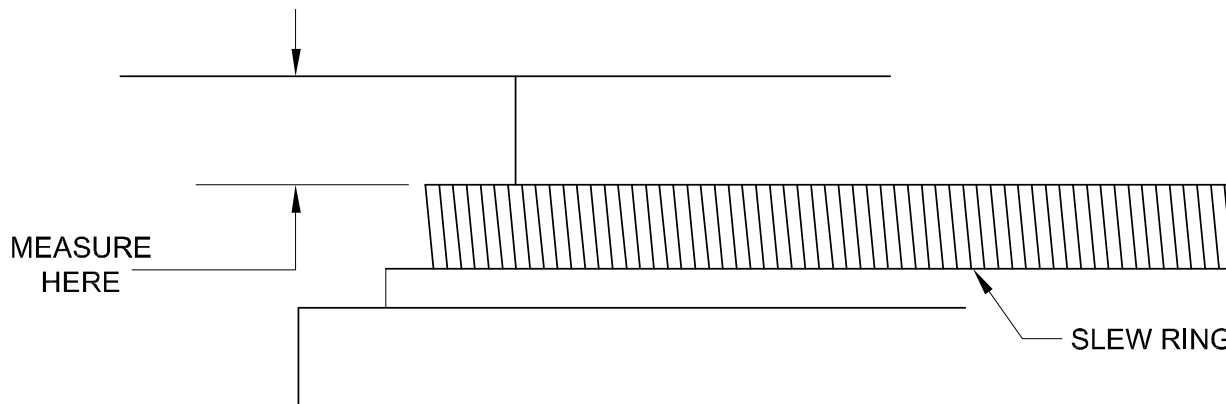

Figure 3-4 Slew Ring Position Measurement
- With the boom lift fully retracted, measure the distance between the slew ring gear and the horizontal plate above. Use a 2-inch (50 mm) caliper or bore micrometer. Record the measurement (Figure 3-4).